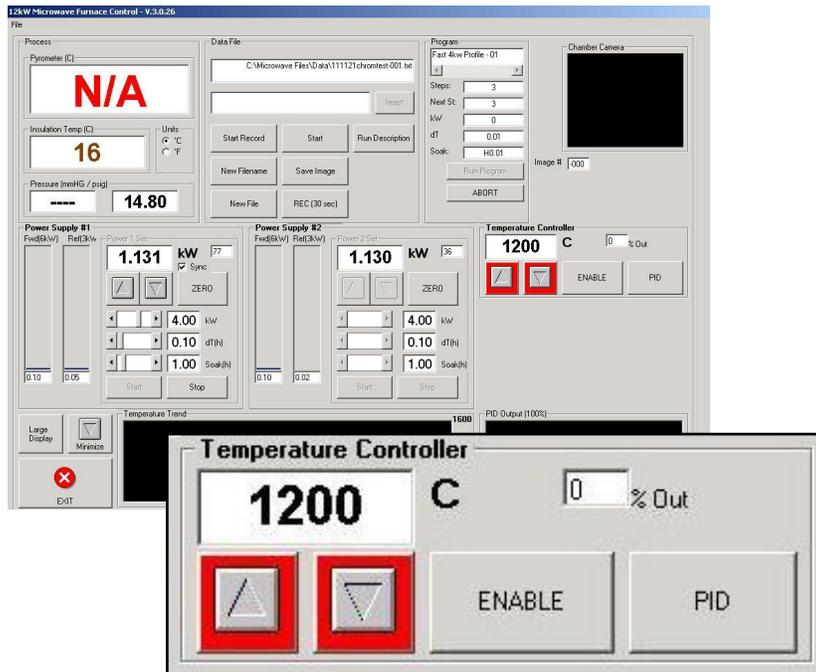

Figure 1 – Dual Mode Temperature Controller
At Hadron we are constantly developing new process controls for microwave (MW) metal melting and casting technology. The most recent development in control interface combines Ramp-Step-Soak programmability along with PID (Proportional, Integral, & Differential) control theory. Both of these concepts are applied in Hadron’s exclusive dual mode microwave temperature controller. See Figure 1